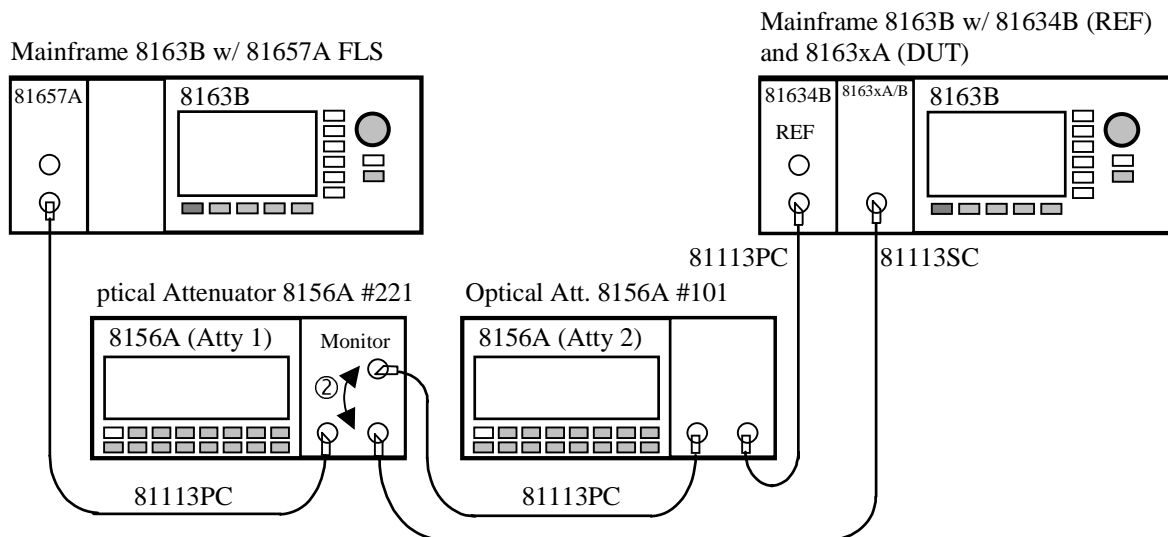

Figure 4 Measurement Setup for Power Linearity
- 3** Setup the equipment as shown in Figure 4. Disable both attenuators and enable the laser source, where the source wavelength is chosen to 1550 nm. If you are using the 81657A, move to the wavelength parameter, $[\lambda]$, press *Enter*, select the longer wavelength source (1550 nm nominally), and press *Enter*.